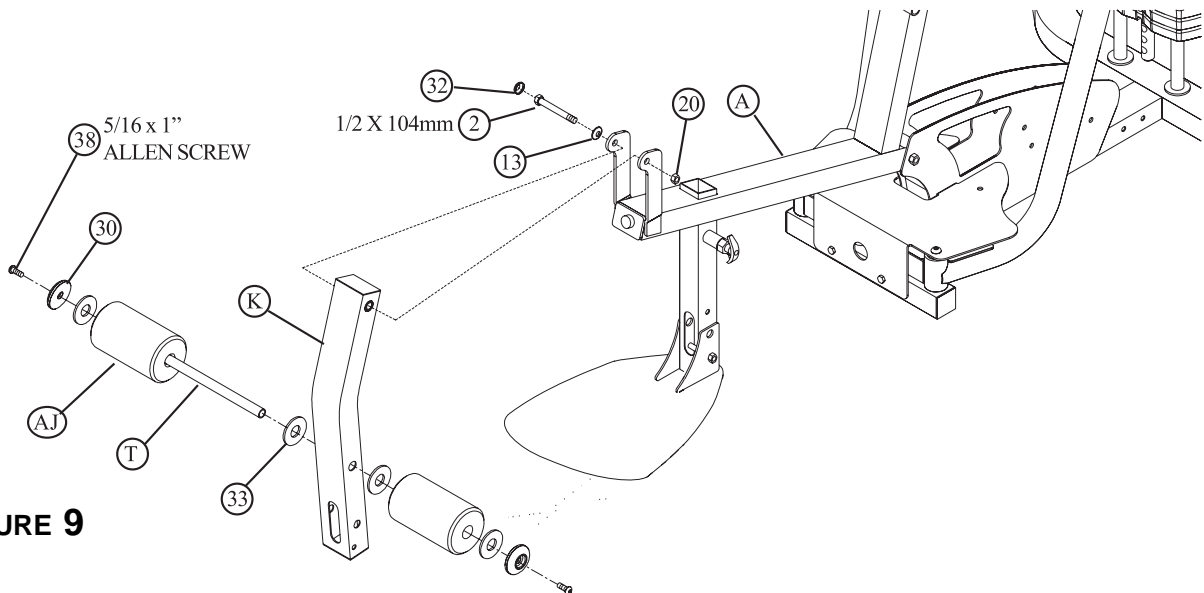

FIGURE 9
- Assemble the LEG PEDESTAL (K) to the FRAME (A) using two RH CAPS (32), one 1/2 X 104mm BOLT (2), two 3/8" SHIM WASHERS (13), and one 1/2" LOCK NUT (20). **(Note: Tighten this connection enough to remove excess play yet allow the LEG PEDESTAL to rotate freely.)**
- Assemble two ROLLER PADS (AJ) to the LEG PEDESTAL (K) using one 3/4 X 17-7/8" TUBE (T), and four PLASTIC WASHERS (33).
- Assemble two ROLLER PAD CAPS (30) using two 5/16" X 1" ALLEN SCREWS (38) as shown in FIGURE 9.